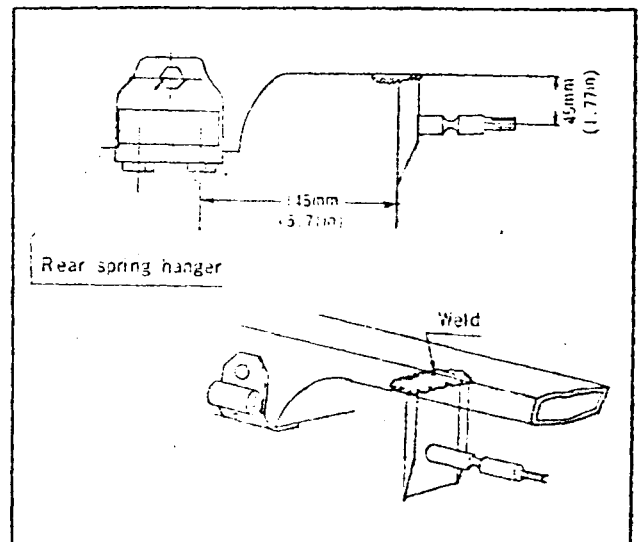

Fig. 2-19 Drawing for Attaching Exhaust Pipe Bracket
(1) Weld it on the rear most cross member. (See Fig. 2-19)